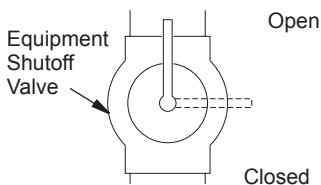
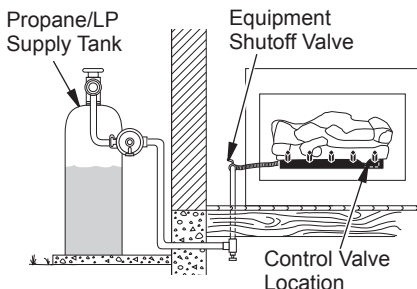
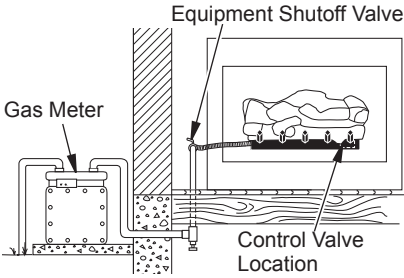

Figure 14 - Equipment Shutoff Valve
Figure 15 - Checking Gas Joints (Propane/LP Only)
Figure 16 - Checking Gas Joints (Natural Gas Only)
1. Close equipment shutoff valve (see Figure 14).
3. Check all joints from gas meter to equipment shutoff valve for natural gas or propane/LP supply to equipment shutoff valve for propane/LP (see Figure 15 or Figure 16, page 16). Apply noncorrosive leak detection fluid to all joints. Bubbles forming show a leak.
1. Open equipment shutoff valve (see Figure 14, page 15).
4. Check all joints from gas meter to equipment shutoff valve for natural gas or propane/LP supply to equipment shutoff valve for propane/LP (see Figure 14, page 15 or Figure 16). Apply noncorrosive leak detection fluid to all joints. Bubbles forming show a leak.